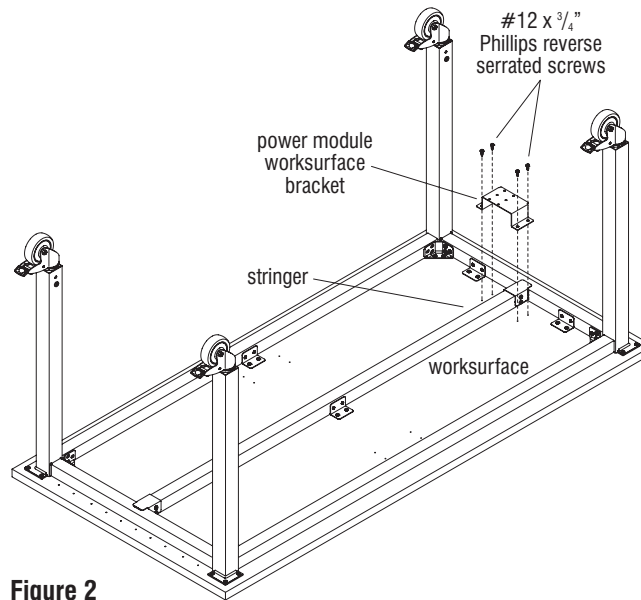

Figure 2
**Note:** When a stringer is present in between the mounting holes of the power module mounting location (page 13, Figure 2), the power module will need to be mounted to the outside of the power module worksurface bracket to prevent interference with the stringer. Identify the mounting locations of each power module in your configuration. Power modules that do not involve a stringer will be installed first (page 12, Figure 1). If a stringer is not present in between the mounting holes of the power module mounting location, proceed to "Dean Undersurface Power Module - Worksurface Bracket without Stringer Installation" instructions on this page. If all power module mounting locations have a stringer present in between the mounting location, proceed to "Dean Undersurface Power Module - Worksurface Bracket with Stringer Installation" instructions on the next page.
1. More than one mounting location is possible per table for a worksurface-mounted power module. Orient a power module worksurface bracket as illustrated and position it over a set of pre-drilled holes in the worksurface over the stringer. Secure the bracket to the worksurface using four #12 x 3/4" Phillips reverse serrated screws (Figure 2 & Detail D).